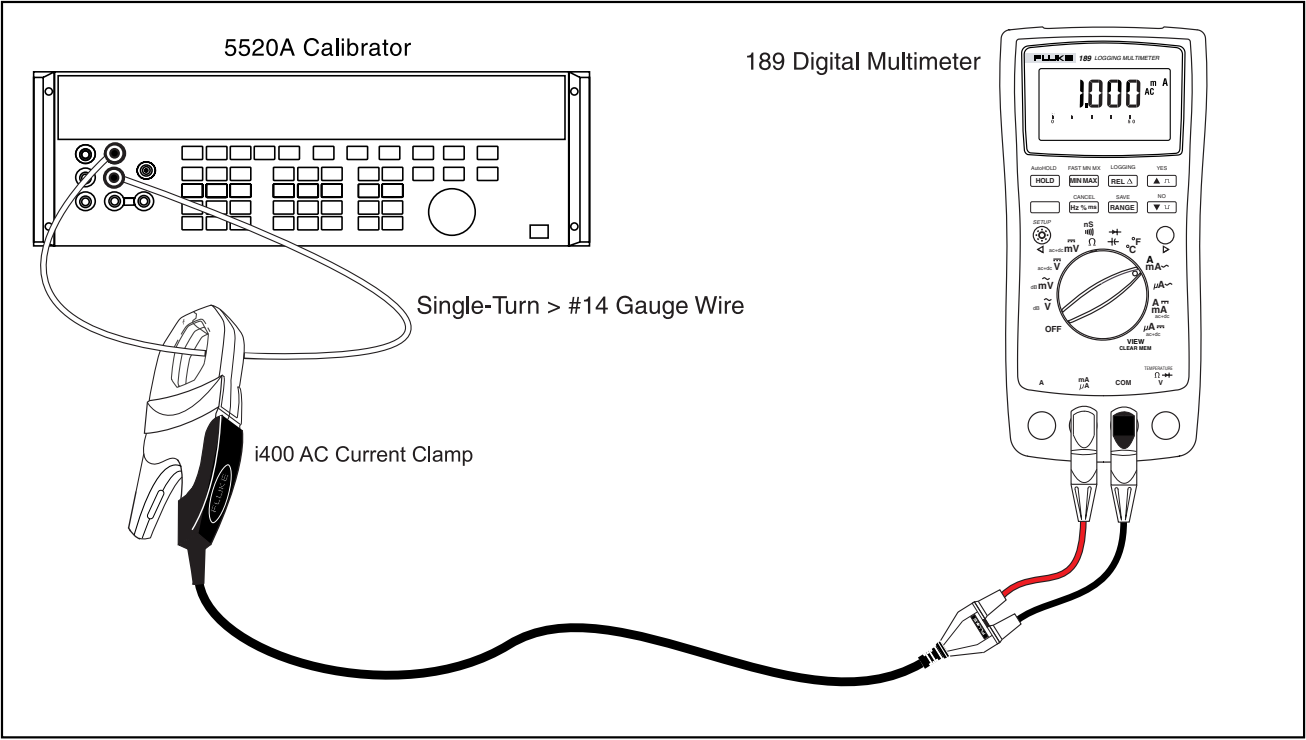

Figure 2. Connections for Current-Accuracy Test (Step 1)
- 1. Connect the equipment as shown in Figure 2.